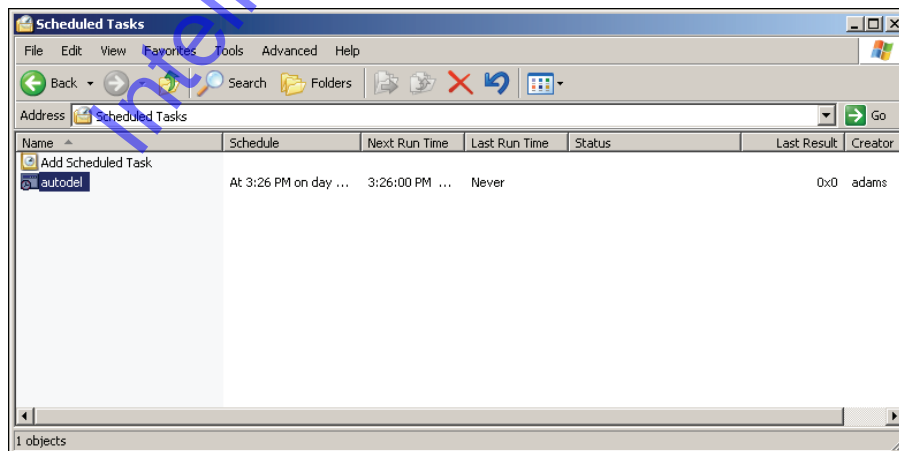

Figure 5-33: Auto Delete Schedule Complete
14. The auto delete schedule now appears in the Scheduled Tasks window (see Figure 5-33).